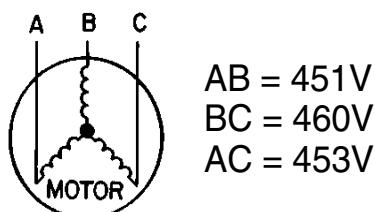

Figure 15. Typical Line Voltages
- Determine the percentage of voltage imbalance in the line voltages (see Figure 15) as follows:
2. Determine the average voltage in the power supply. In the example shown in Figure 15, the measured line voltages are 451, 460, and 453 with an average of 454 volts ($451 + 460 + 453 = 1,364 / 3 = 454$).